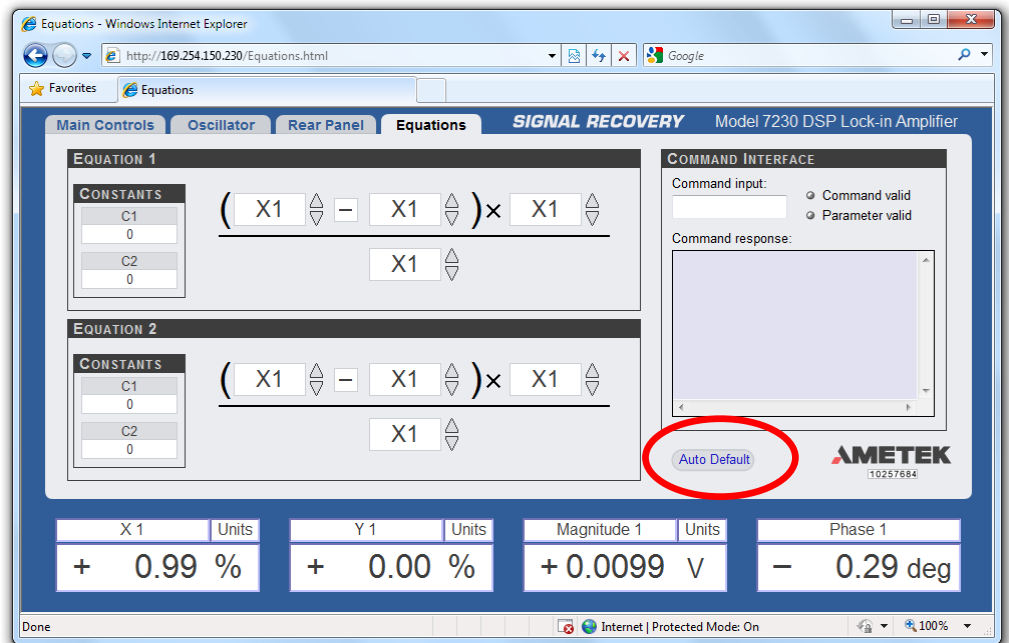

Figure 2-4, Model 7230 Equations Panel
- 9) Click the Equations tab, to show the Equations panel, as shown below in figure 2-4